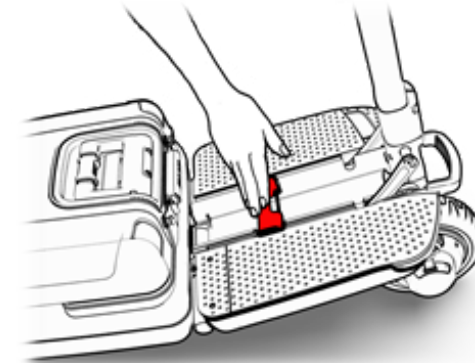

Figure 11
- Place the handle in its designated place (see Figure 11).